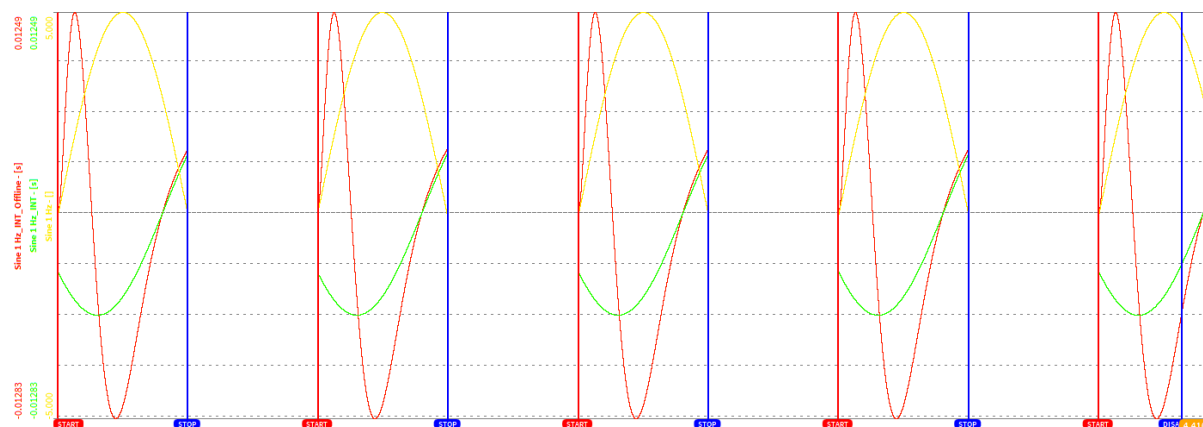

Fig. 7.181: Deviation of Offline and Online Filter channels in case of Event based Waveform recording
- Be aware that an Offline Filter channel will differ from an Online Filter channel, i.e. at the beginning of the file or in case of Event based waveform recording (see Triggered Events). In the example displayed in Fig. 7.181, the green channel is an online calculated Integrator applied on the yellow analog channel and the red channel is an offline calculated integrator applied on the yellow analog channel with identical channel settings. The deviation of the green and the red channel happens, because the offline calculated integrator will oscillate at the beginning of each new event, but the online calculated integrator not, because the analog data is always available during online calculation.